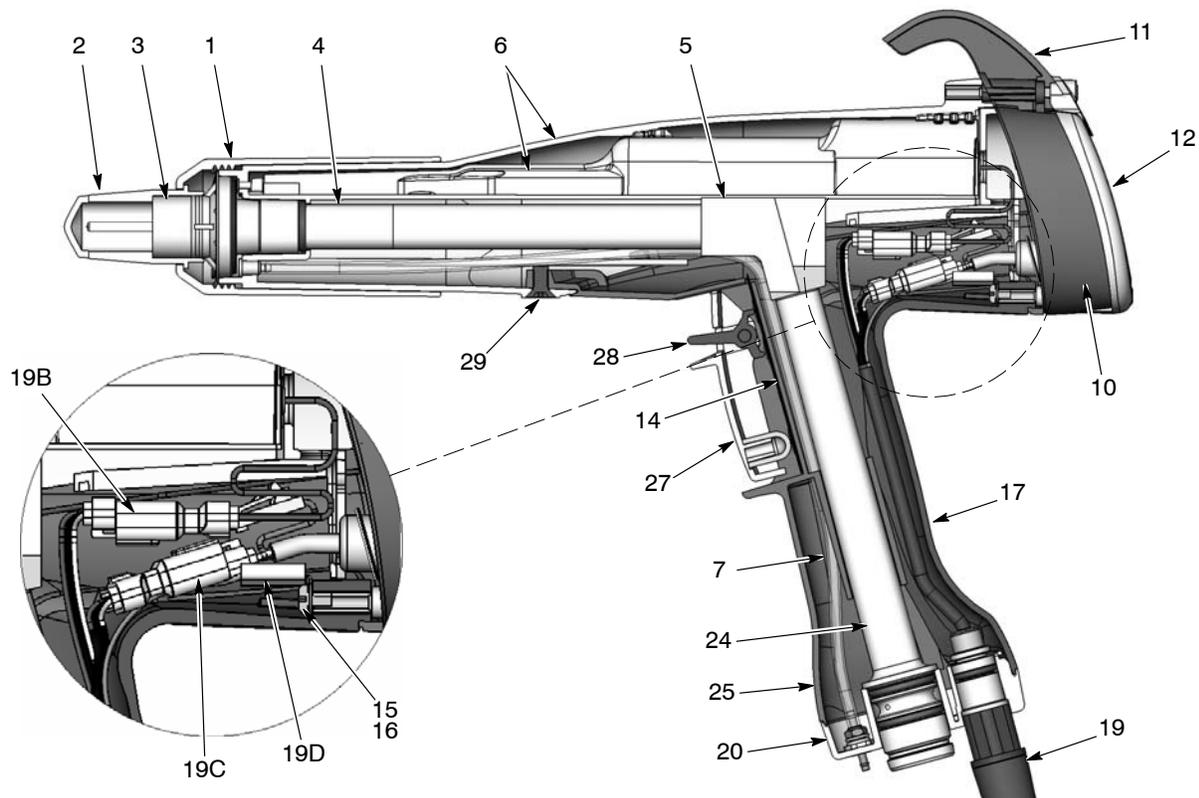

Figure 5-1 Section View of Spray Gun (item numbers in this section match item numbers in parts list)
1. See Figures 5-1 and 5-2. Unscrew the top and bottom screws (13) holding the bezel (12), hook (11) and display module (10) onto the gun body.
2. See Figure 5-1. Unscrew the nozzle nut and remove the nozzle and electrode assembly from the spray gun.